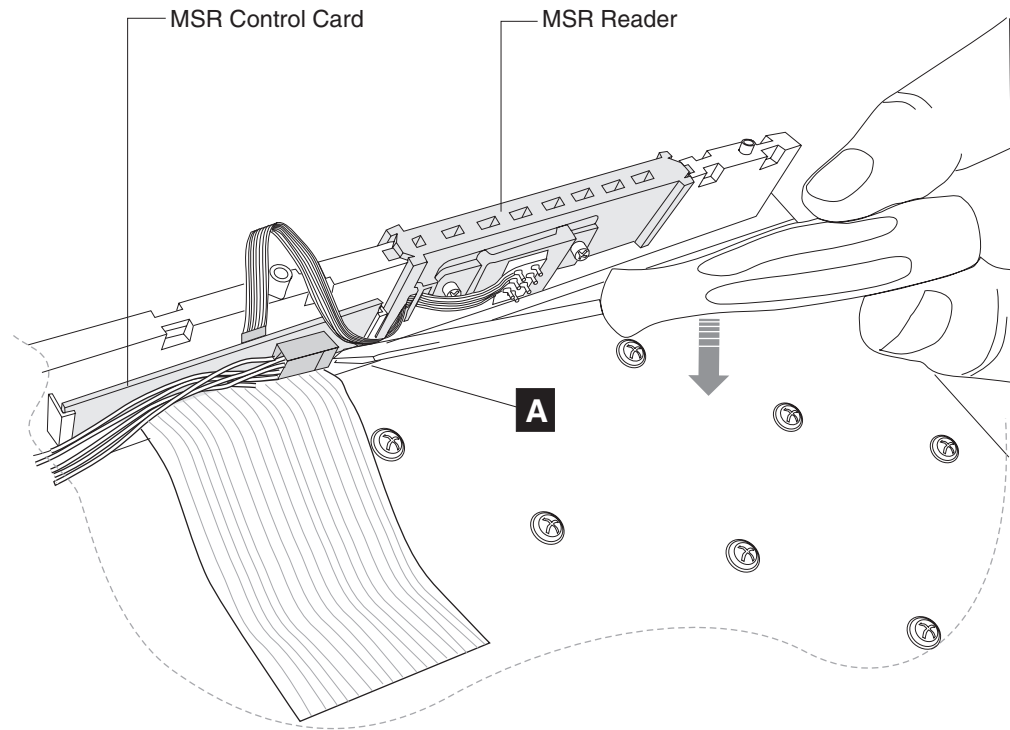

Figure 113. Removing the MSR control card
pry the control card up and off the two plastic guides as shown in Figure 113.
1. Install the MSR control card onto the keypad assembly by inserting the control card into the two plastic guide, as shown in Figure 113.